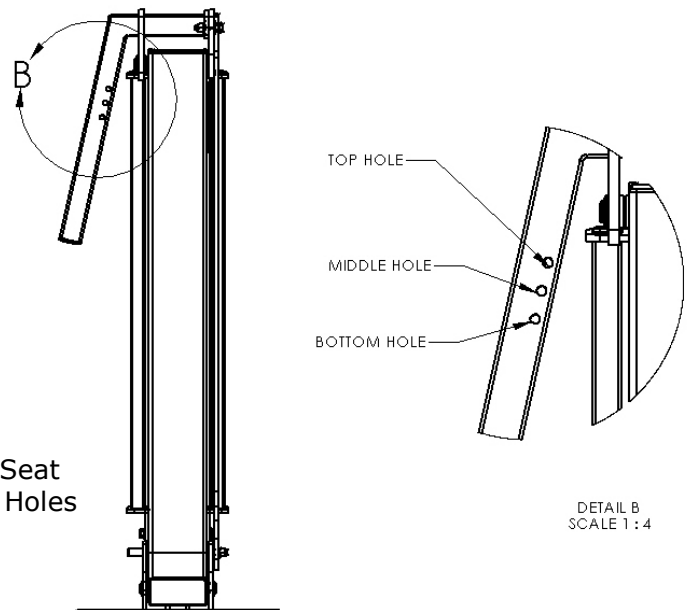
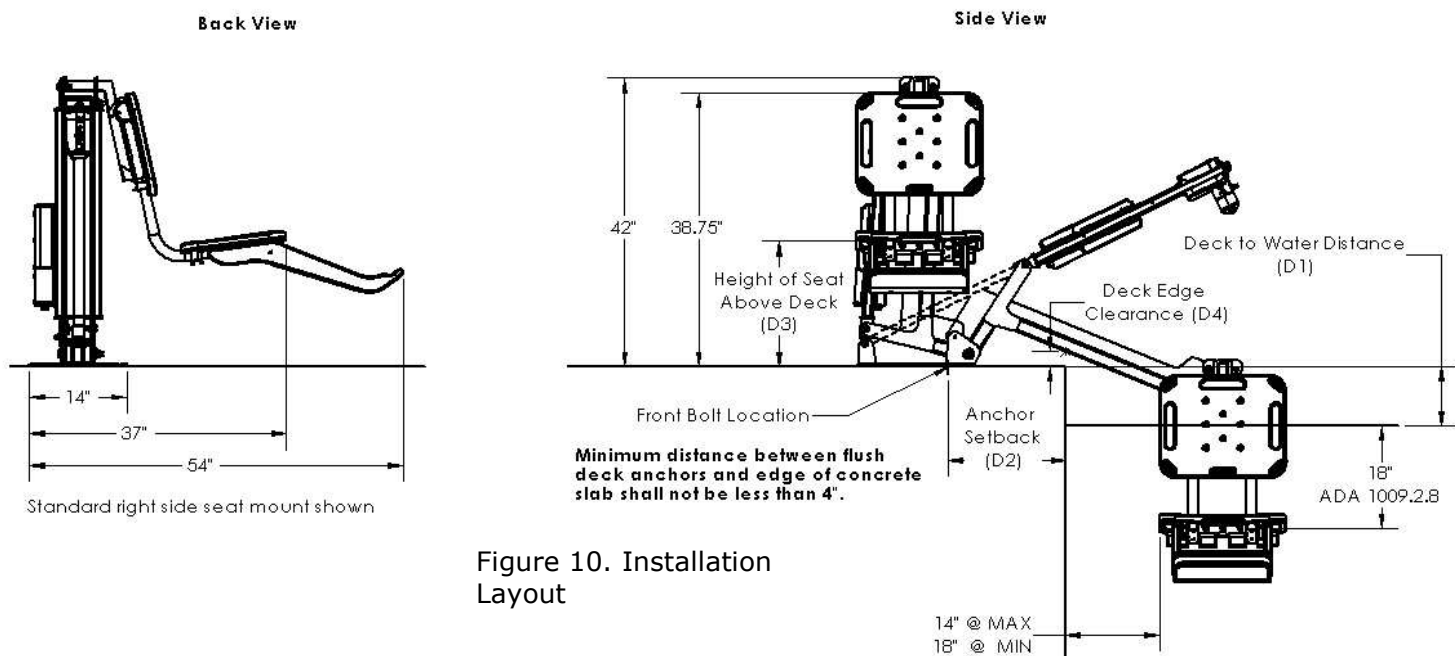

Figure 6. Seat Mounting Holes
Figure 10. Installation Layout
The ML300 has a mast height of 42 in / 106.6 cm above the deck. It is intended to be used with simple pool gutter configurations having a deck to water distance of no more than 8 inches, see Table 1 and Figure 10 to determine if the ML300 will work on a specific pool. The maximum weight capacity for ML300 is 300 lb/136 kg. Only persons healthy enough for water activities should use the ML300. Users should consult with their physician to determine if water activities are appropriate for the user.
12. Attach seat assembly with bolt and thumbnut in appropriate hole. Refer to **Figure 10** and **Table 1** to determine the correct seat mounting hole to use. Also see **Figure 6**.
The optimal mounting distance for the deck front anchors is 12.5"/ 31.75 cm from the edge of the pool. The front anchors can be installed up to a maximum of 17"/43.18 cm from the edge of the pool, but the deck edge clearance decreases the farther the lift is installed from the pool edge. The setback distance from the pool edge to the front anchor locations varies depending upon pool geometry. The ML300 is designed to be used with simple pool edge designs with deck to water level differences of 0" to 8" maximum. Review **Figure 10** and **Table 1** to determine the correct seat mounting location and anchor installation setback for your pool.
3. Use **Figure 10** and **Table 1** to determine the proper location to install the lift, making certain that the front anchors are located the correct distance from the pool edge.
2. Use **Figure 10** and **Table 1** to determine the proper location to install the lift, making certain that the front anchors are located the correct distance from the pool edge.